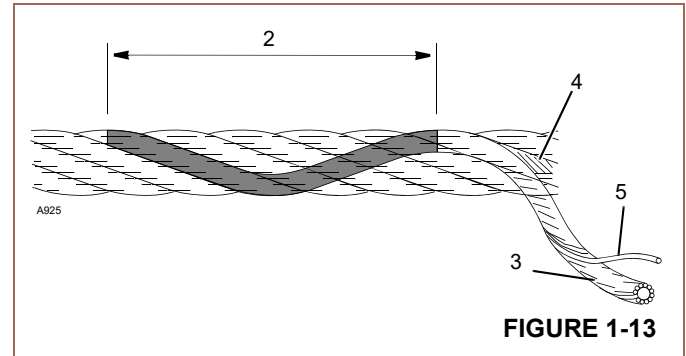

FIGURE 1-13
13. When checking for broken wires (5) Figure 1-13 relax the rope, move it off “pick-up points”. Defect in the rope is in relation to “Lay Length” (2) which is the distance measured along rope in which one strand (3) makes one complete revolution around the core (4).